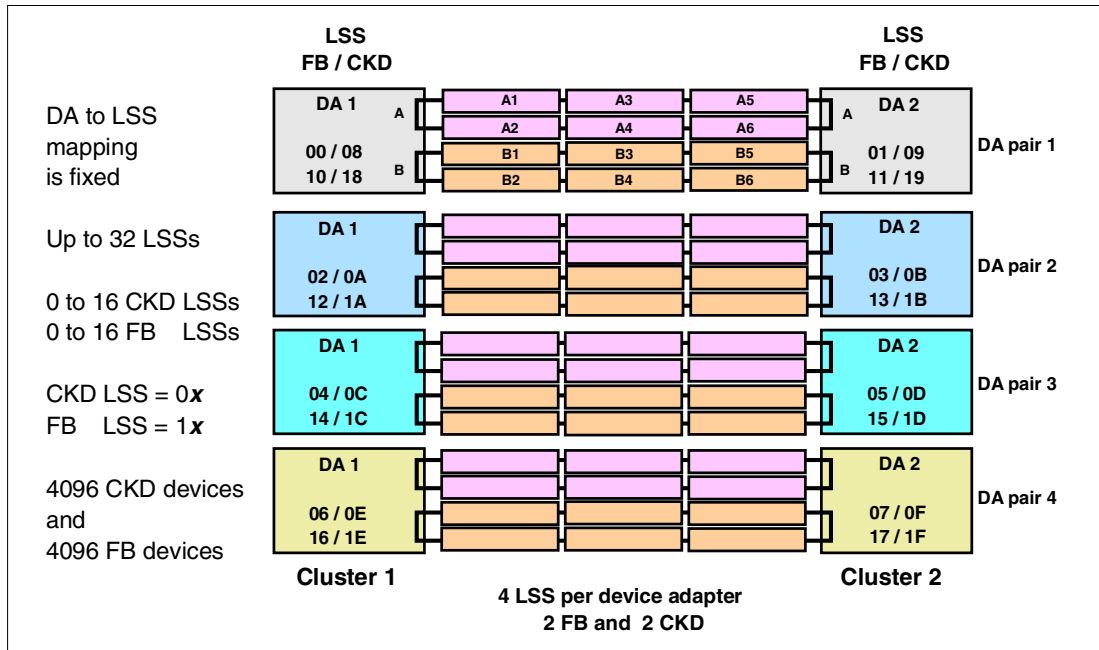

Figure 3-16 Logical Subsystems and device adapters mappings
The device adapter (DA) to LSS mapping is a fixed relationship. Each DA supports two loops, and each loop supports two CKD Logical Subsystems and two FB Logical Subsystems (one from each cluster). So a DA pair supports up to four CKD LSSs and four FB LSSs, as Figure 3-16 on page 69 illustrates.